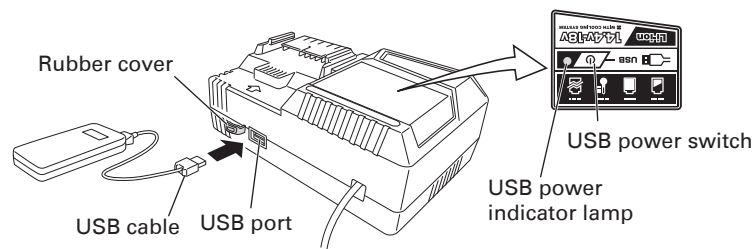

Fig. 16d
(2) Turn the USB power switch ON (Fig. 16d)
(3) Connect the USB cable. (Fig. 16d)
(4) When charging is completed
- Turn the USB power switch OFF and unplug the power cord from the electrical outlet. (Fig. 16d)